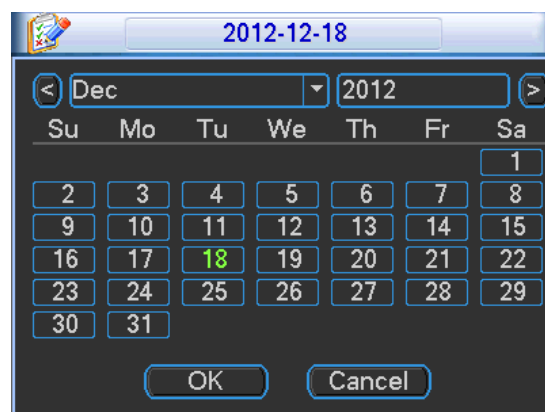

Figure 4-24
- Holiday setting: Click it you can see an interface shown as in Figure 4-24. Here you can set holiday date. Please go to the Holidays Period interface to set the holiday date record setup.